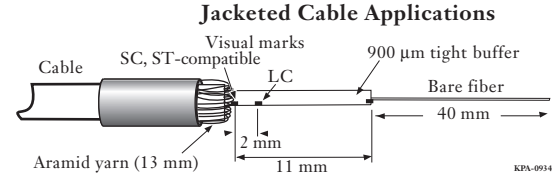

Figure 68 — Mark from Edge of Jacket
- Fold aramid yarn back and secure with the crimp ring (Figure 68).